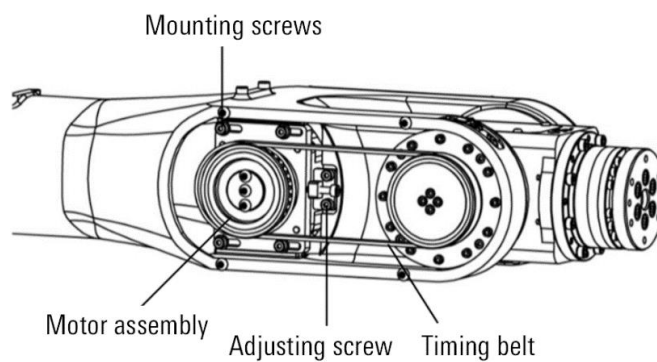

Figure 12-10 Removing the timing belt
- Step5. Remove four M4 screws from the motor base, as shown in Figure 12-10.